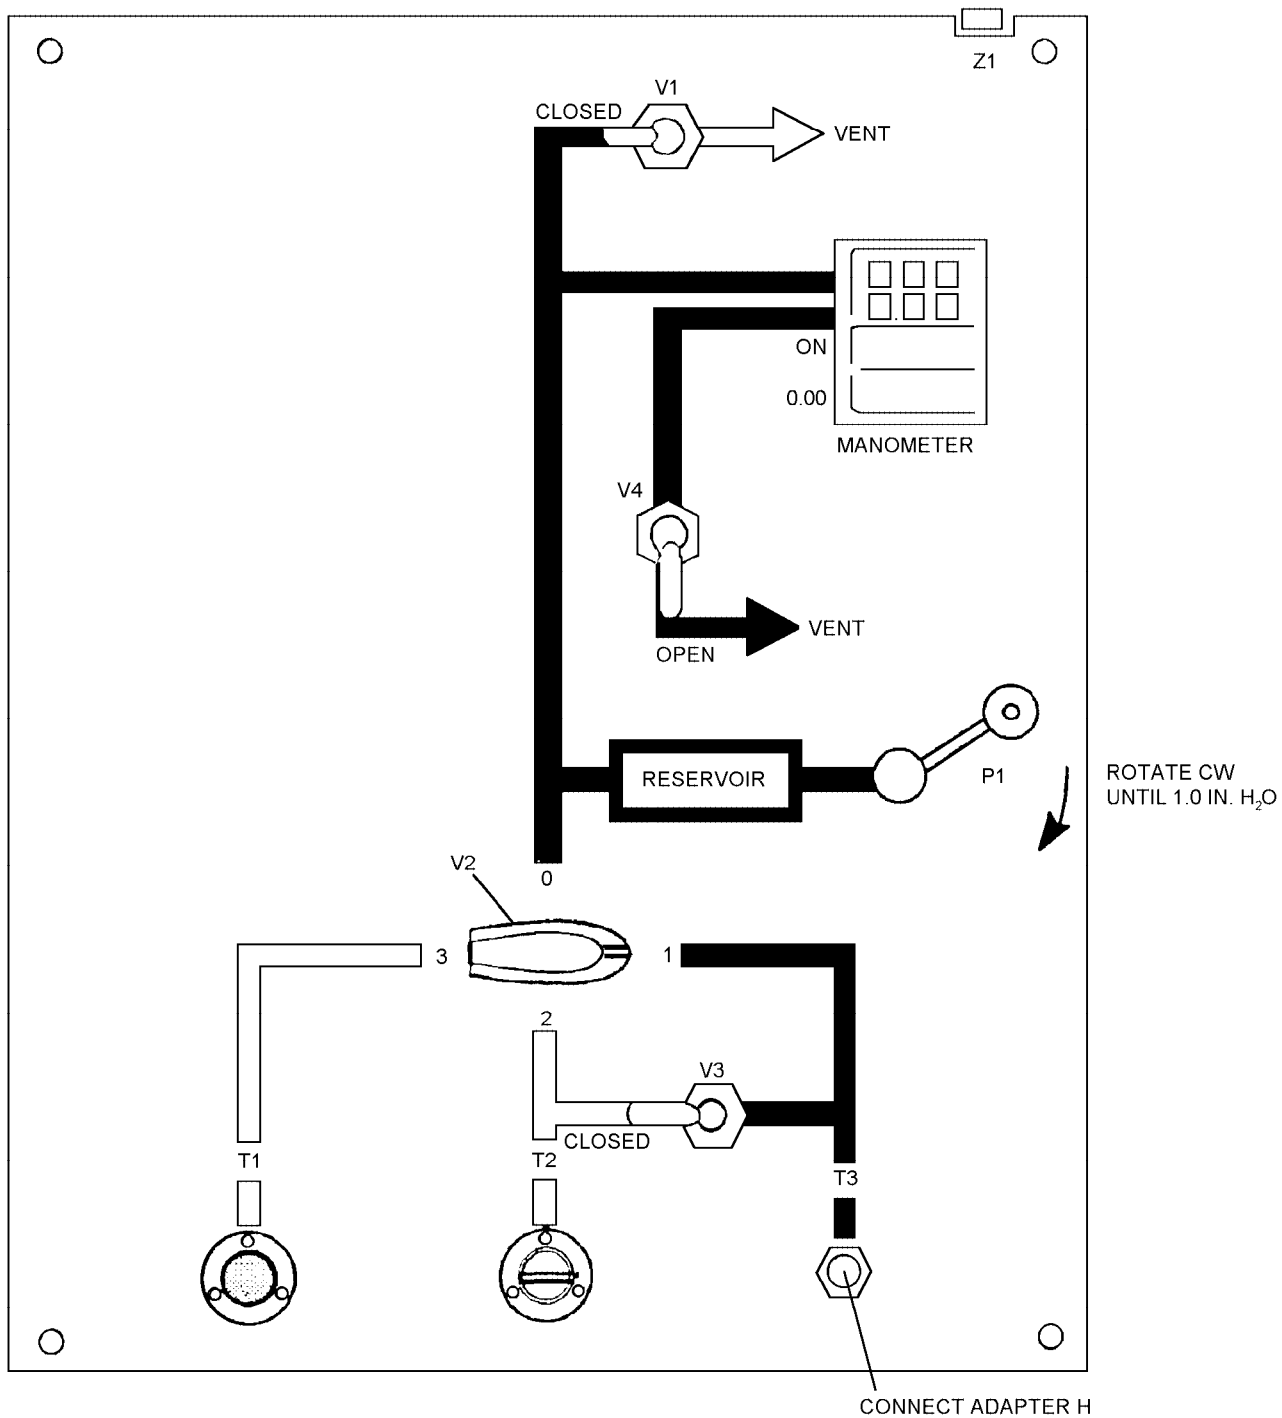

Figure 4-83. Exhalation Outlet Valve - Reverse Leakage Test
5. Connect free end of adapter H to T3 (figure 4-83).